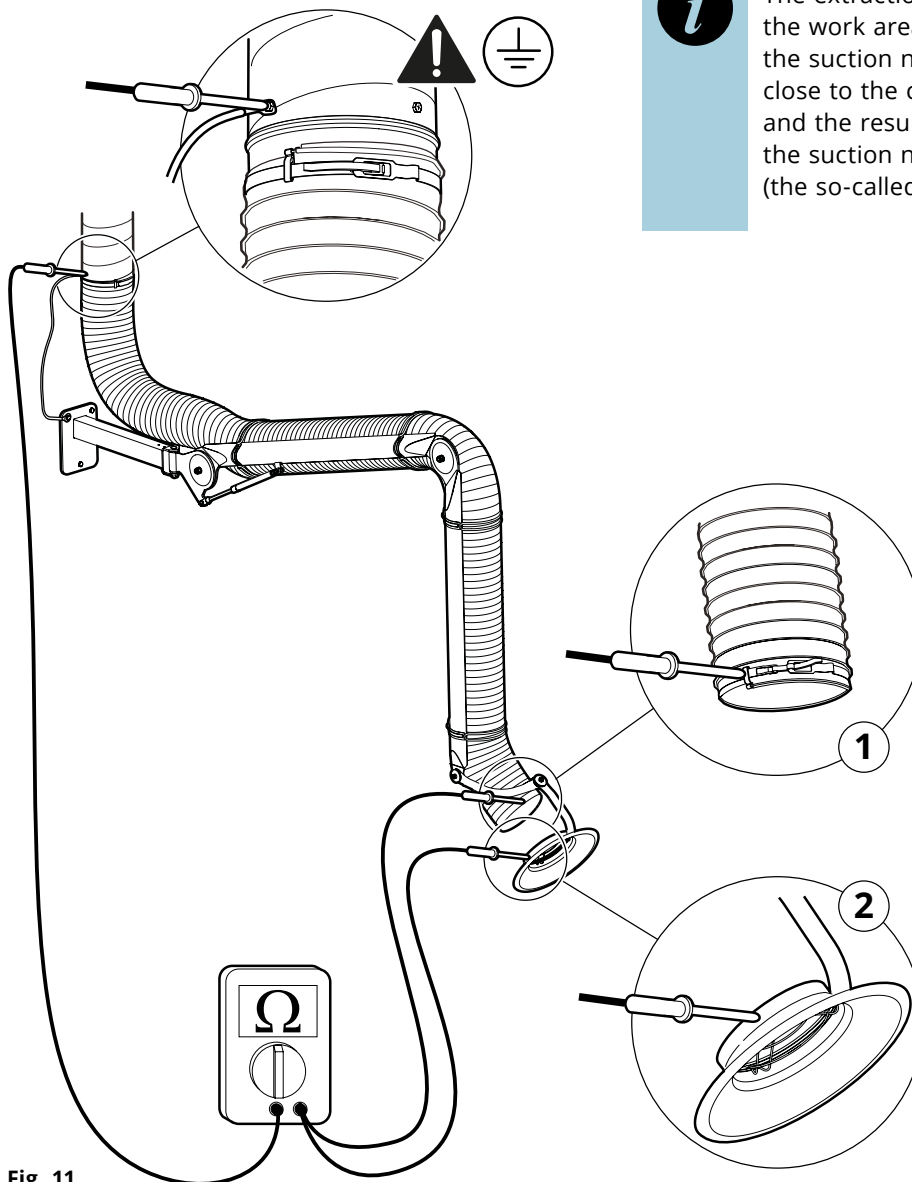

Fig. 11
3. Check the resistance of the hose with a calibrated ohmmeter. See 1, **Fig. 11**. The resistance between the measuring points (earth plane/hose end) must be less than 1 MΩ.
4. Check the resistance of the extraction arm with a calibrated ohmmeter. See 2, **Fig. 11**. The resistance between the measuring points (earth plane/hood) must be less than 1 MΩ.